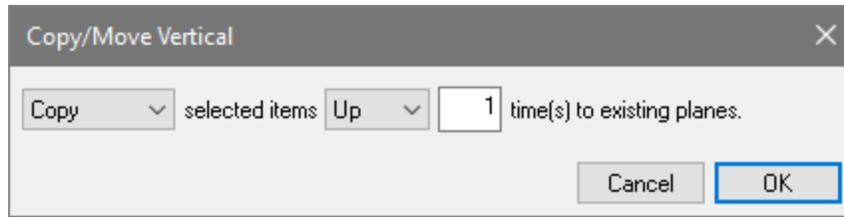

Figure 9-125
- Click on the drop-down box labeled *To* and select *Up*. This will change the *Copy/Move Vertical* window to be as shown in **FIGURE 9-125**.